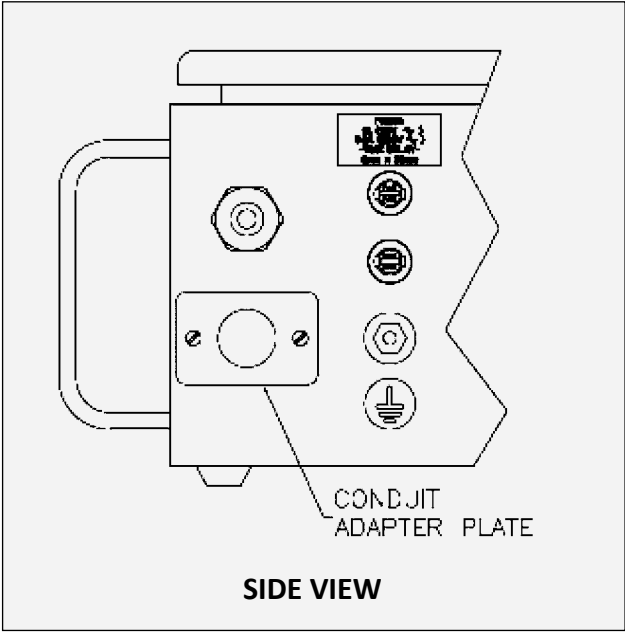

Figure 11: Installation of Conduit Adapter Plate
3. Install the Conduit Adapter Plate (See Accessories Section) in the hole where the AC inlet receptacle was removed (see Figure 11).